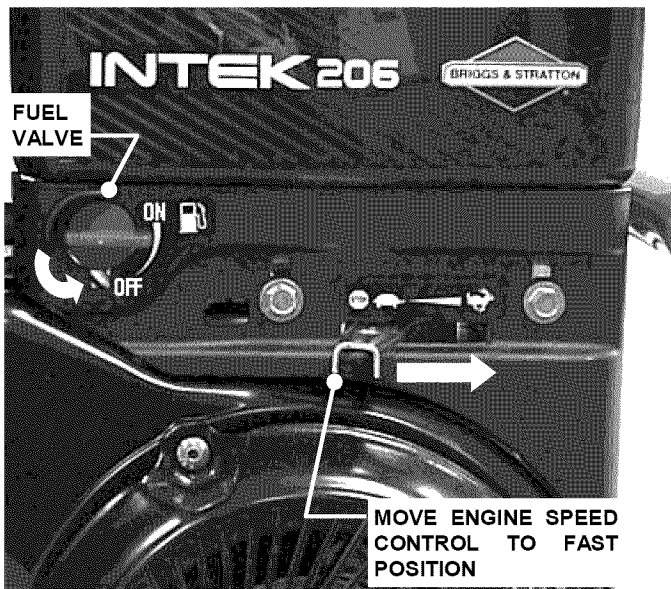

FIGURE 6
Step 3: Briggs Engine - Move ENGINE SPEED CONTROL to FAST position and turn FUEL VALVE to ON position. See Figure 6.